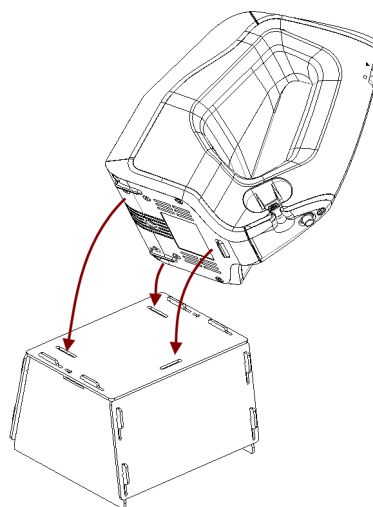

Figure 11.7.: Placing Artec Spider on the stand
3. Place the scanner on the scanner stand, making sure that you insert the three scanner stems in the three slots of the stand cover (see Figure 11.7.).